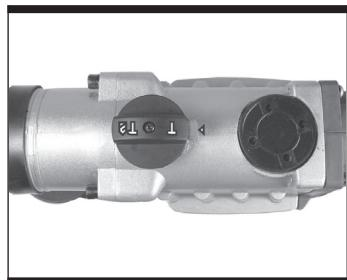

Fig 11
1. Adjust the dial selector to position “ T ” to stop rotation of the chuck (see Fig11)